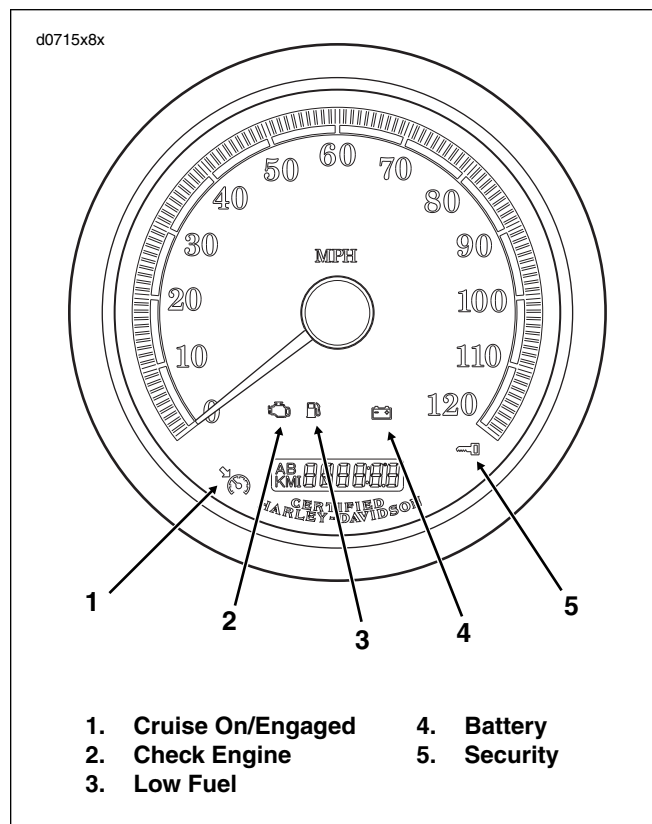

Figure 5-8. Speedometer (FLHR/C/S)
- For a quick check of speedometer function, a “wow” test can be performed. See Figure 5-8. Press and hold odometer reset switch then turn ignition switch ON. Release reset switch. Background lighting should illuminate, speedometer needle should sweep its full range of motion, and indicator lamps [battery, security, low fuel (EFI models) check engine and cruise] should illuminate. Some lamps may illuminate even though they do not apply to the vehicle. For example, the cruise lamp may illuminate even though the motorcycle may not be equipped with cruise control.